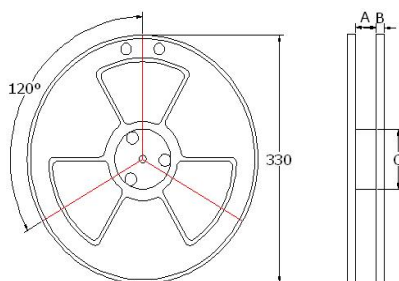

Fig.6.1-1
(1) Tape carrier packaging are specified in attached figure **Fig.6.1-1~2**
(2) Tape carrier packaging quantity: